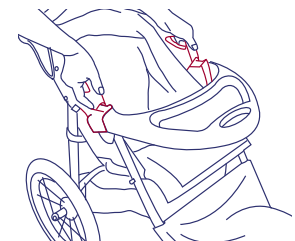
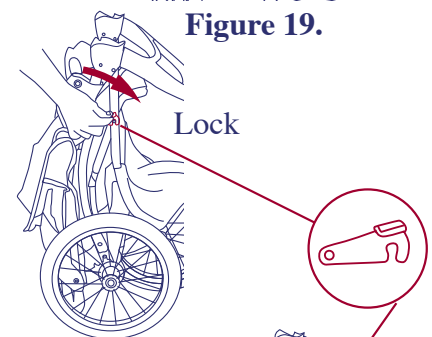

Figure 19.
Figure 20.
- The stroller is folded by simultaneously depressing the safety lock on the right side and fold buttons located on the central joints. Please see figure 19. When the fold latches are released, the handle will begin to fall toward the floor. Release the fold buttons and press downward on the stroller handle until the stroller is completely folded. Secure the stroller in the folded position by hooking the fold latch, located on the right side of the stroller, over the rivet that protrudes from the frame. See figure 20.